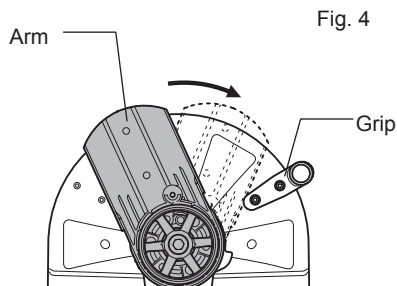

Fig. 4
- (5) Rotate the arm until it contacts the grip and return the lock shaft to the original position by hand. (Fig. 4)